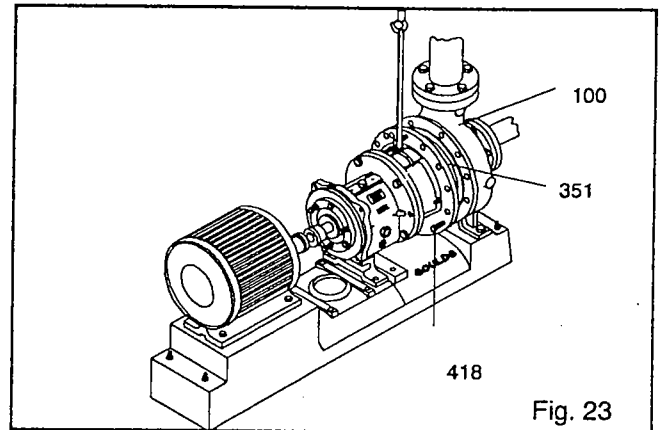

Fig. 23
11. Remove back pull-out assembly from casing (100). Tighten jack screws (418) evenly to remove back pull-out assembly (Fig. 23).